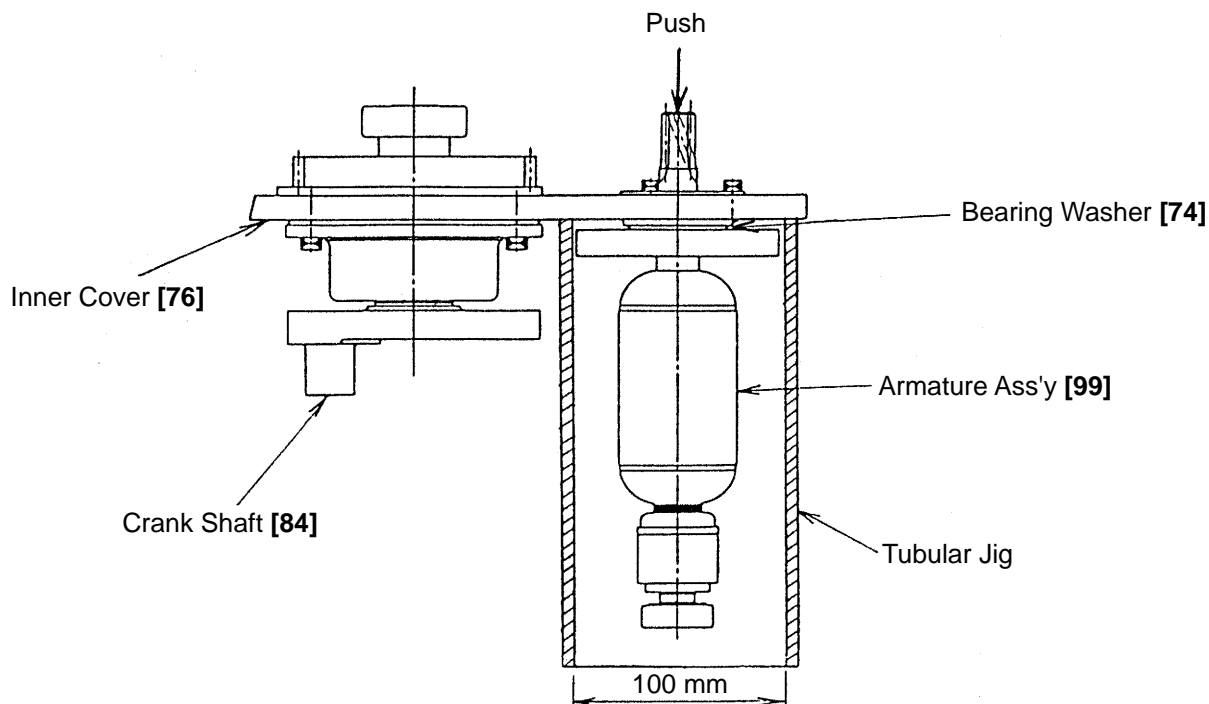

Fig. 13
- (1) Remove the two Seal Lock Hex. Socket Hd. Bolts M4 x 10 [89], and disassemble the Cap Cover [90] and the Carbon Brushes [92].
- (2) Loosen the Lock Nut M8 (Nylon Insert) [48], and remove the Washer M8 [47]. Then, while pressing on the Switch Handle side, pull the Side Handle [55] and Handle Holder (A) [56] from the Handle Shaft [51]. Next, pull off the Switch Handle side and gently tap the end of the Handle Shaft [51] on one side to loosen and remove the Holder (A) [53] and Handle Dampers [54] (4 pcs.) from one side. The Handle Shaft [51] can then be extracted from the Housing Ass'y [85].
- (3) Remove the four Seal Lock Hex. Socket Hd. Bolts M10 x 60 [58] and two Seal Lock Hex. Socket Hd. Bolts M10 x 55 [66] and take off the Gear Cover Ass'y [59]. At the same time, also remove the First Gear [68] and Second Gear [69]. Next, by inserting a flat-blade screwdriver or similar tool into one of the air vents of the Inner Cover [76] and lifting it upwards, the Inner Cover [76], Armature Ass'y [99], Crank Shaft [84], and connected parts can be removed in a single body.
- (4) As illustrated in Fig. 13, support the Inner Cover [76] with an appropriate tubular jig (100 mm inner dia.), and push down on the pinion end of the Armature Ass'y [99] with an arbor press to separate the Armature Ass'y [99] from the Inner Cover [76]. At this time, be very careful not to lose the Bearing Washer [74] which is mounted on the fan ass'y portion of the Armature Ass'y.